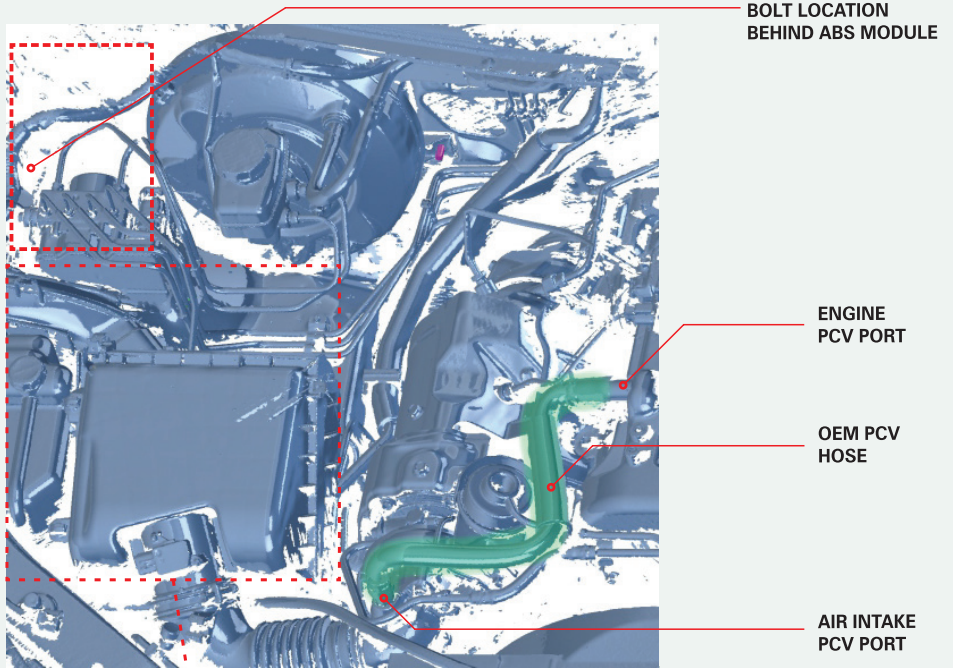

FIGURE 1A
- 2 Remove OEM PCV hose highlighted green in FIG. 1A, page 6.